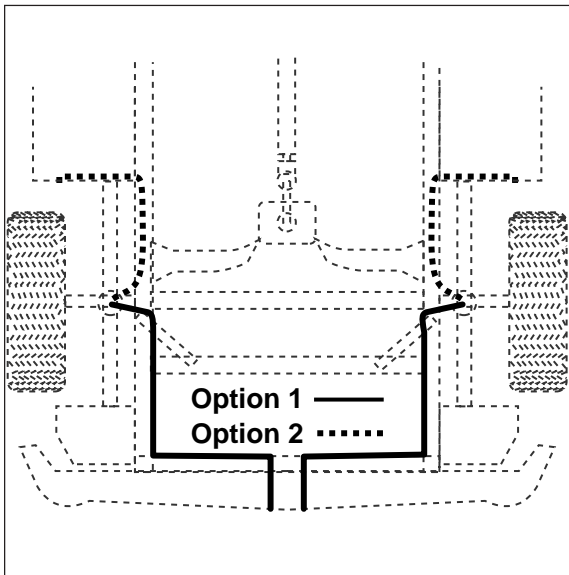
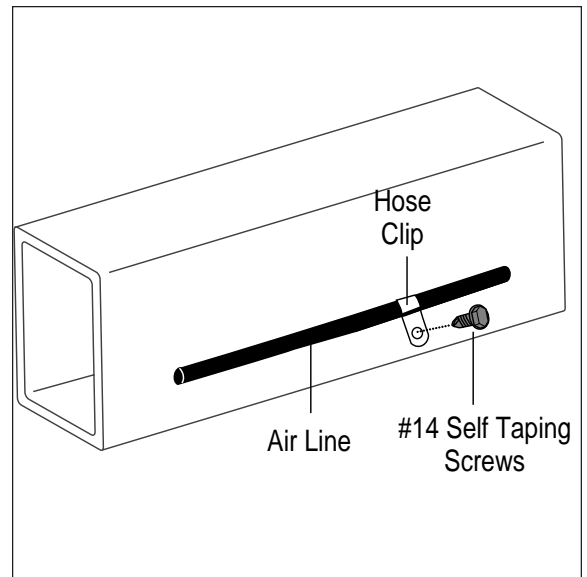

Figure 5
Figure 7
1. Select a location for the inflation valves in the rear bumper area or rocker panel flange ensuring that each valve will be protected and accessible with an air hose (Figure 5).
3. Route air line along frame from the inflation valve location to the air springs (Figure 5). Use the tie straps or provided clips and self tapping screws to attach the air line to the frame rail (Figure 7). It is not necessary to drill a hole for this type of self tapping screw. Simply drive the screw through the frame section. Attach air line to chassis with the provided plastic straps.
- VERY IMPORTANT:** With the bottom and top still loose, inflate the air spring to approximately 10 p.s.i. By using the slotted adjustment in the lower bracket, align the air spring so that there is a symmetrical cushion of air around the lower base. This can be accomplished by pressing all around the air spring and tapping it inboard or outboard for proper alignment (Figure 7).